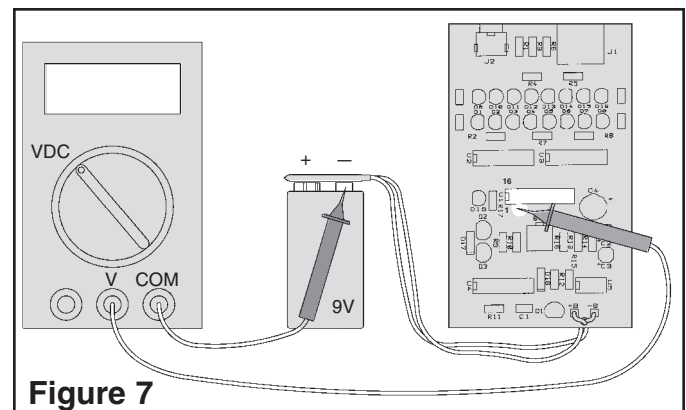

Figure 7
- 2. Set the voltmeter to read 20VDC and connect the COM lead to the negative (-) side of the battery and the V lead to pin 3 of IC U1 as shown in Figure 7.